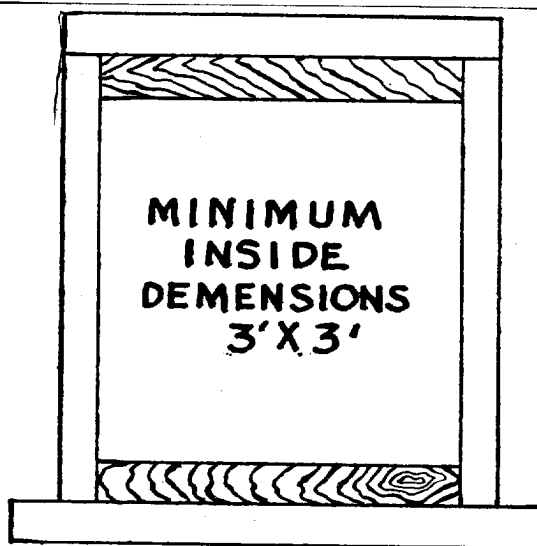

FIGURE 21.—Portal frame.
B. ORGANIZATION	<ol style="list-style-type: none"> <li>1. The leader of the tunneling crew should:               <ol style="list-style-type: none"> <li>a. Organize his unit so each member has a specific job. Because much of this work is exhausting, and no one should work too long, he should name alternates for each job.</li> <li>b. Select the starting point which depends on several factors:                   <ol style="list-style-type: none"> <li>(1) Length of tunnel required.</li> <li>(2) Type of debris.</li> </ol> </li> <li>c. Select a location for the rubble store pile.</li> <li>d. Organize the crew into work groups:                   <ol style="list-style-type: none"> <li>(1) Men to gather timbers.</li> <li>(2) Men to lay out tools.</li> <li>(3) Men to start the tunnel.</li> </ol> </li> <li>e. See that all men are properly equipped.                   <ol style="list-style-type: none"> <li>(1) Personal equipment: heavy gloves, helmets, and electric cap-lamp.</li> <li>(2) Organizational equipment: axe, saw, pipe cutter, sledges and hammers, chisels, miner's pick, debris basket, shovel, stirrup pump, lifeline, and self-energizing telephone set.</li> </ol> </li> </ol> </li> </ol>
C. CONSTRUCTION	<ol style="list-style-type: none"> <li>1. Starting point.               <ol style="list-style-type: none"> <li>a. The starting point for the tunnel should be as close to an access location as possible, with adequate space for piling up removed debris and rubble. Wood, brick, and other materials should be separated for later use in the tunneling operations.</li> <li>b. Manpower should be used efficiently and divided into:                   <ol style="list-style-type: none"> <li>(1) Tunneling group.</li> <li>(2) Framing group.</li> </ol> </li> <li>c. To equalize the workload, the leader should alternate personnel within the 2 groups.</li> </ol> </li> <li>2. "Facing off."               <ol style="list-style-type: none"> <li>a. While the framing group is preparing frames to assemble in position as the work progresses, the tunneling group should "face off" the pile so that, as the tunnel is started, it will pierce the face of the pile.</li> </ol> </li> <li>3. Framing.               <ol style="list-style-type: none"> <li>a. The framing group should prepare:                   <ol style="list-style-type: none"> <li>(1) 1 single header frame for the portal.</li> <li>(2) 1 temporary frame for use inside the tunnel as work progresses.</li> <li>(3) As many doubleheader frames as are required to complete the operation.</li> </ol> </li> </ol> </li> <li>4. Description of the above frames:               <ol style="list-style-type: none"> <li>a. The portal frame is constructed as shown in figure 21. Inside dimensions are 3' x 3' minimum.</li> </ol> </li> </ol>